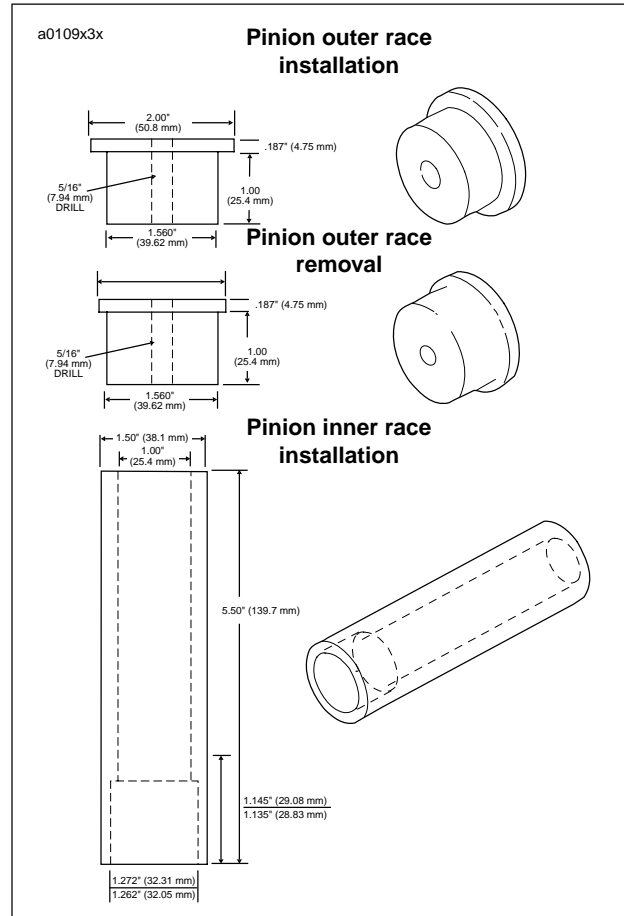

Figure 3-129. Pinion Shaft Bearing Tools
See Figure 3-129. Dimensions are shown for fabrication of tools used in pressing the outer race into or out of crankcase.
8. Press **new** inner race on pinion shaft as shown. The **new** inner race must be ground by a competent machinist to OD dimension range for the finished lapped ID of the outer race. See Table 3-36. The finished inner race must meet these specifications. For necessary dimensions for constructing a press-on tool see Figure 3-129. When the tool bottoms against the flywheel, correct inner race location is automatically established.